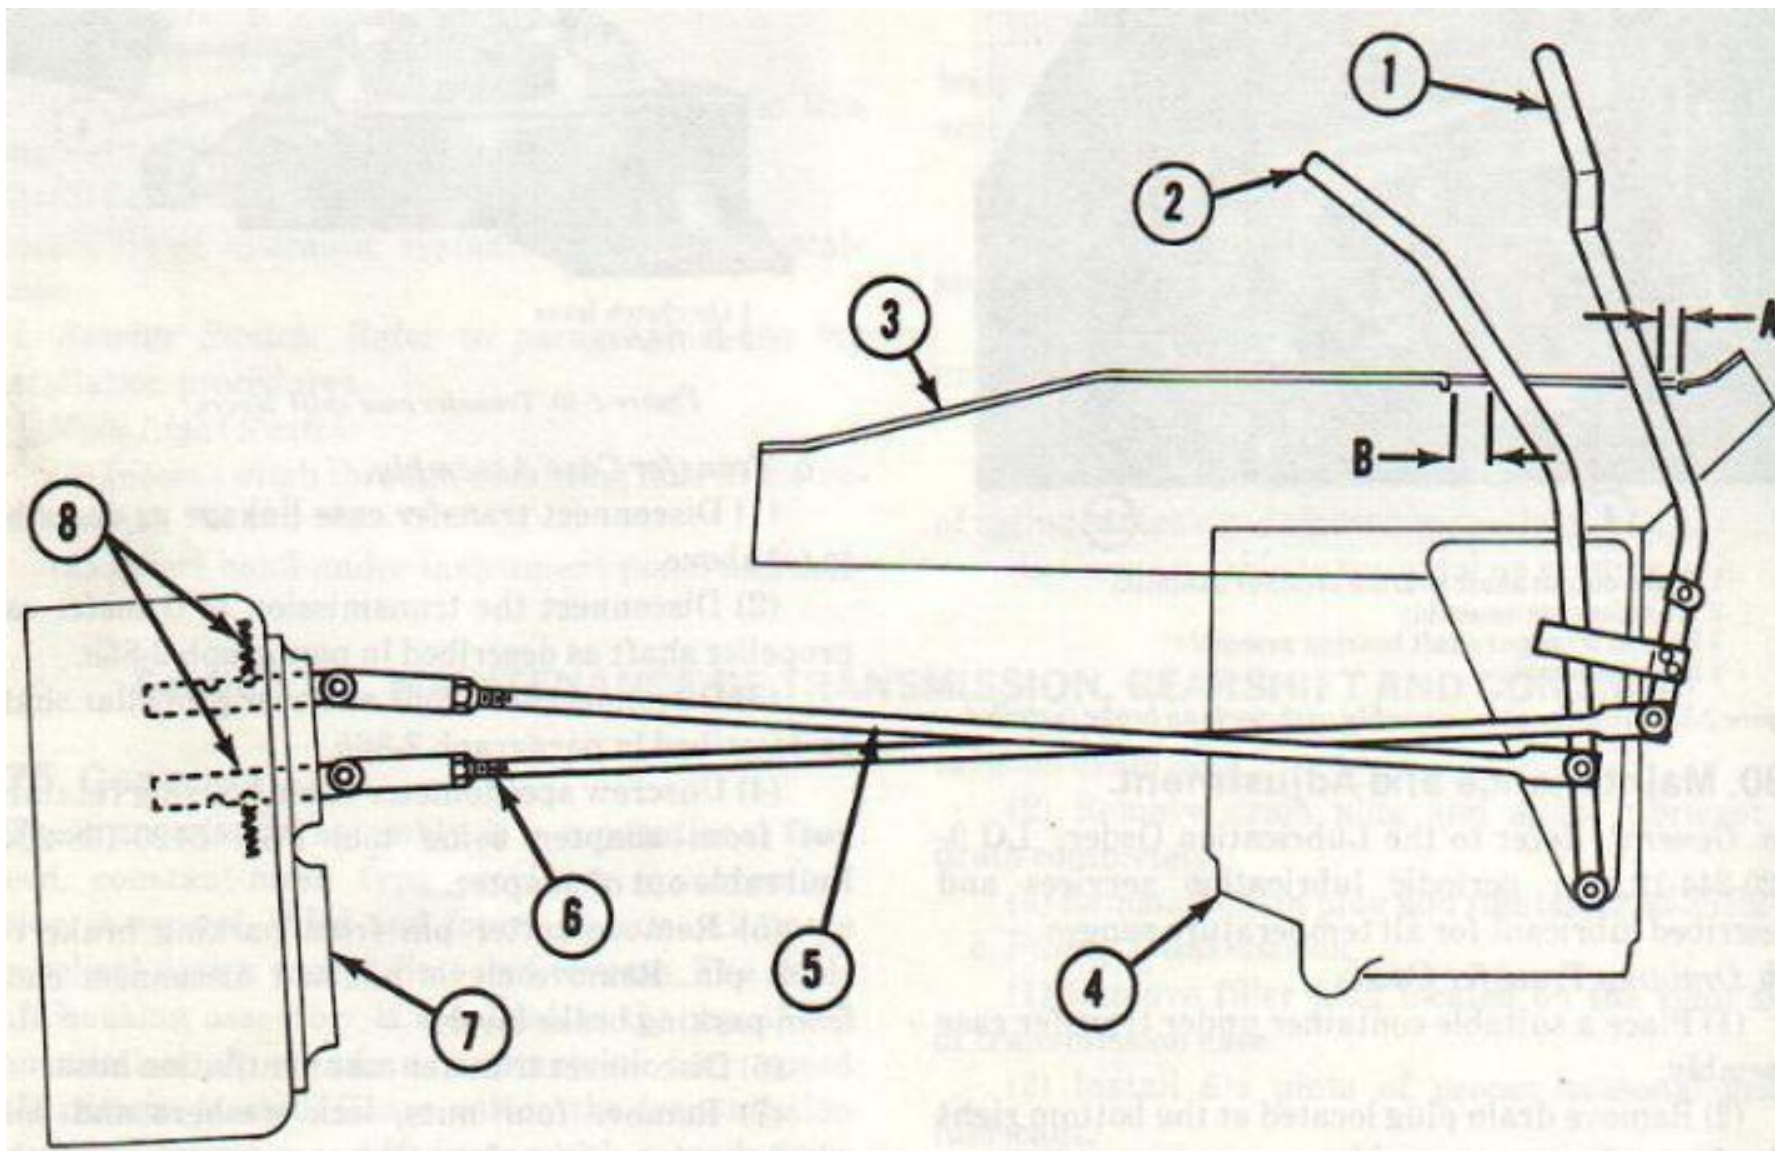

Figure 2-60. Transfer case shift rod assembly
a. Control Levers and Linkage. (Fig 2-60)
- (1) Remove transfer case control levers to transmission bracket bolts.
- (2) Disconnect shift control levers from transmission and pull lever through floor panel.
- (3) Remove cotter pins and flat washers from control rods to transfer case shift rails. Remove control rods.
- (1) Position transfer case and mounting cushions to frame mounting brackets.
- (2) Install four attaching bolts, lock washers and nuts, tighten to 80-120 lbs-ft.
- (3) Position parking brake rod clevis to lever and install clevis pin. Install cotter pin in clevis pin.
- (4) Install speedometer cable in adapter and tighten housing retaining nut using Tool FSN 5120-168-2348.
- (5) Install front and rear axle and transmission propeller shafts as outlined in paragraph 2-90a and b.
- (6) Attach transfer case control lever and linkage as described in (b) below.
b. Control Lever and Linkage. (Fig 2-60)
- (1) Connect control rods to transfer case shift rail links. Position flat washers on rod ends and install cotter pins.
- (2) Insert control levers through access hole in floor panel. Attach levers to transmission bracket and install bolts, lock washers and countersink screw. Tighten to 14-25 lbs-ft.